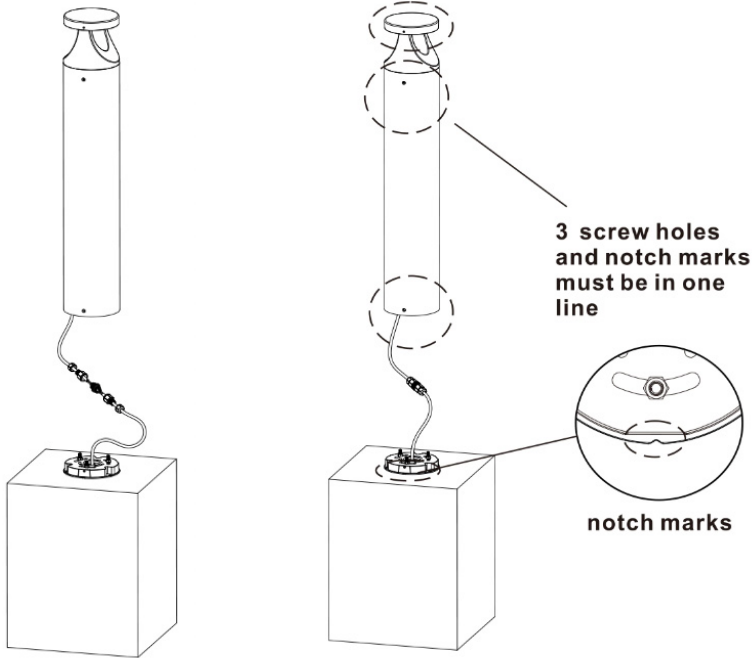

Fig. 5
5. Pull the wires through the base and add extension cable if necessary (Fig. 5).